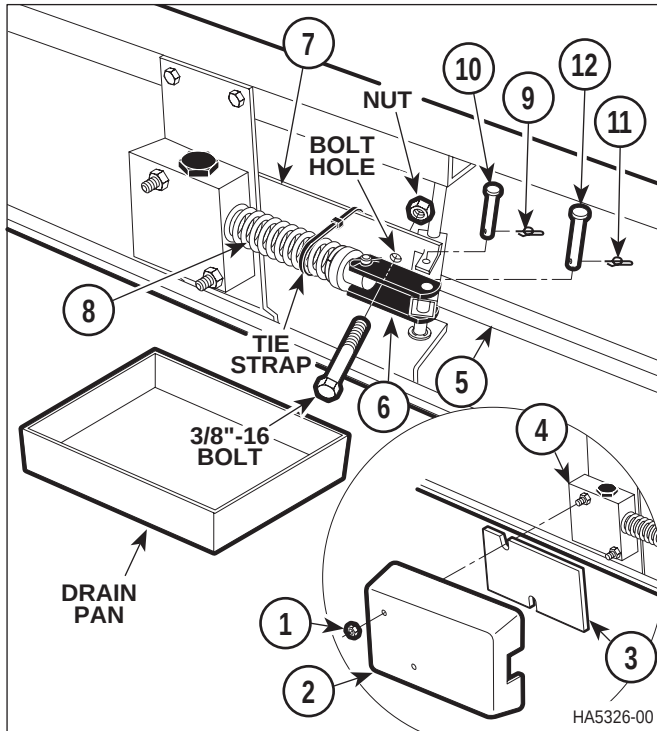

Figure 4-7. Foot Pedal Disconnection
- (4) Remove two nuts (1, Figure 4-7), pump cover (2), and pad (3) from two bolts (4).
- (5) Depress foot pedal (5) down as far as it will go and use a weight or some other method to keep it down.
- (4) Coat o-rings on elbows (3 and 4) with oil.
- (5) Install elbows (3 and 4) on pump assembly (5), making sure to tighten jam nuts of elbows *after* elbow itself has been hand tightened and positioned. Tighten jam nuts to 10 - 12 ft-lbs (13.5 - 16.2 N•m).
- (6) Connect hoses (1 and 2) to elbows (3 and 4).
- (7) Connect pump pedal links (6, Figure 4-7) to foot pedal (5) with clevis pin (12) and rue ring (11).
- (8) Cut tie strap.
- (9) Remove nut and 3/8-16 x 2.5" bolt from release bar (7).
- (10) Connect release bar (7) to foot pedal (5) with clevis pin (10) and rue ring (9).
- (11) Turn stretcher upright.
- (12) Add oil to hydraulic system (Refer to para 4.4).
- (13) Purge air from the hydraulic system (Refer to para 4.5).
- (14) Adjust the pump assembly release point (Refer to para 4.8).